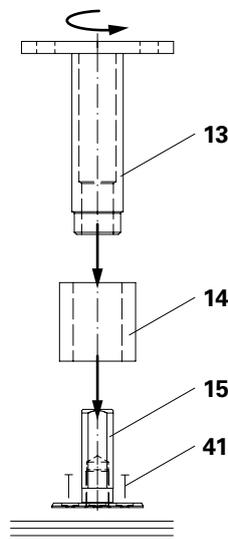

Fig. A5.01
Take into consideration edge spacing "a". (Fig. A5.01 + A5.01a)
- Push Cone FRC 32/52, c = 40 (14) over the thread of the Anchor Positioning Stud M24 x 65 (15).
- Screw Anchor Sleeve M24 (13) on to the Anchor Positioning Stud M24 x 65 (15) as far as possible. (Fig. A5.01)
- Secure the Anchor Sleeve M24 (13) in the reinforcement using tie wire.